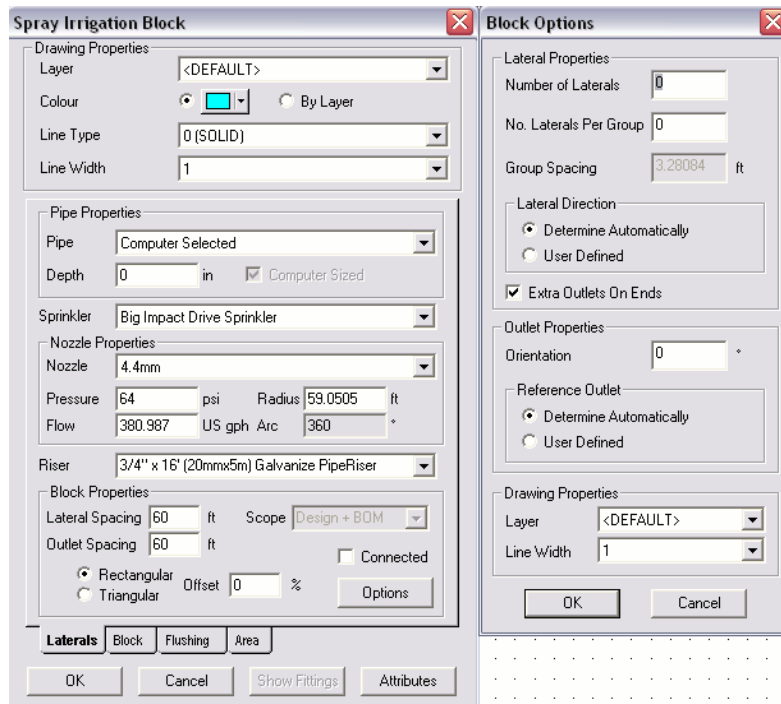

Figure 4-63
11. Now select *Zone/Spray Irrigation Block*. On the Laterals tab, leave the pipe as **Computer Selected**. Select the **Big Impact Drive Sprinkler** and the **4.4mm** “Nozzle”. Change the “Pressure” for the nozzle to **64psi (45m)**. The “Radius” will change to 59.05ft (18m). Select the **¾” x 16ft (20mm x 5m) Galvanized Pipe Riser** and change the “Lateral” and “Outlet Spacing” to 60ft (**18m**) each. Leave the “Outlet Spacing Properties” as “Rectangular” and **0%** “Offset”. Uncheck the “Connected” checkbox. Leave the “Scope” as **Design + BOM**. Click the [Options] button and check the “Extra Outlets on Ends” checkbox as in Figure 4-63. Click [OK] on both dialogs.